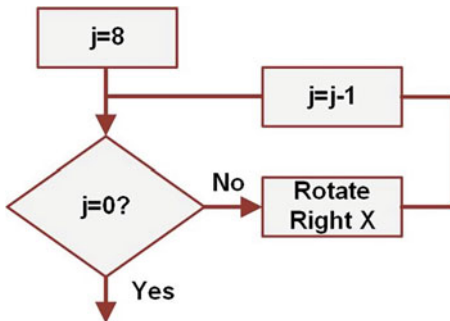

Fig. 8.7
- 8.4.2 Which high-level programming construct does the flow chart in Fig. 8.7 represent?